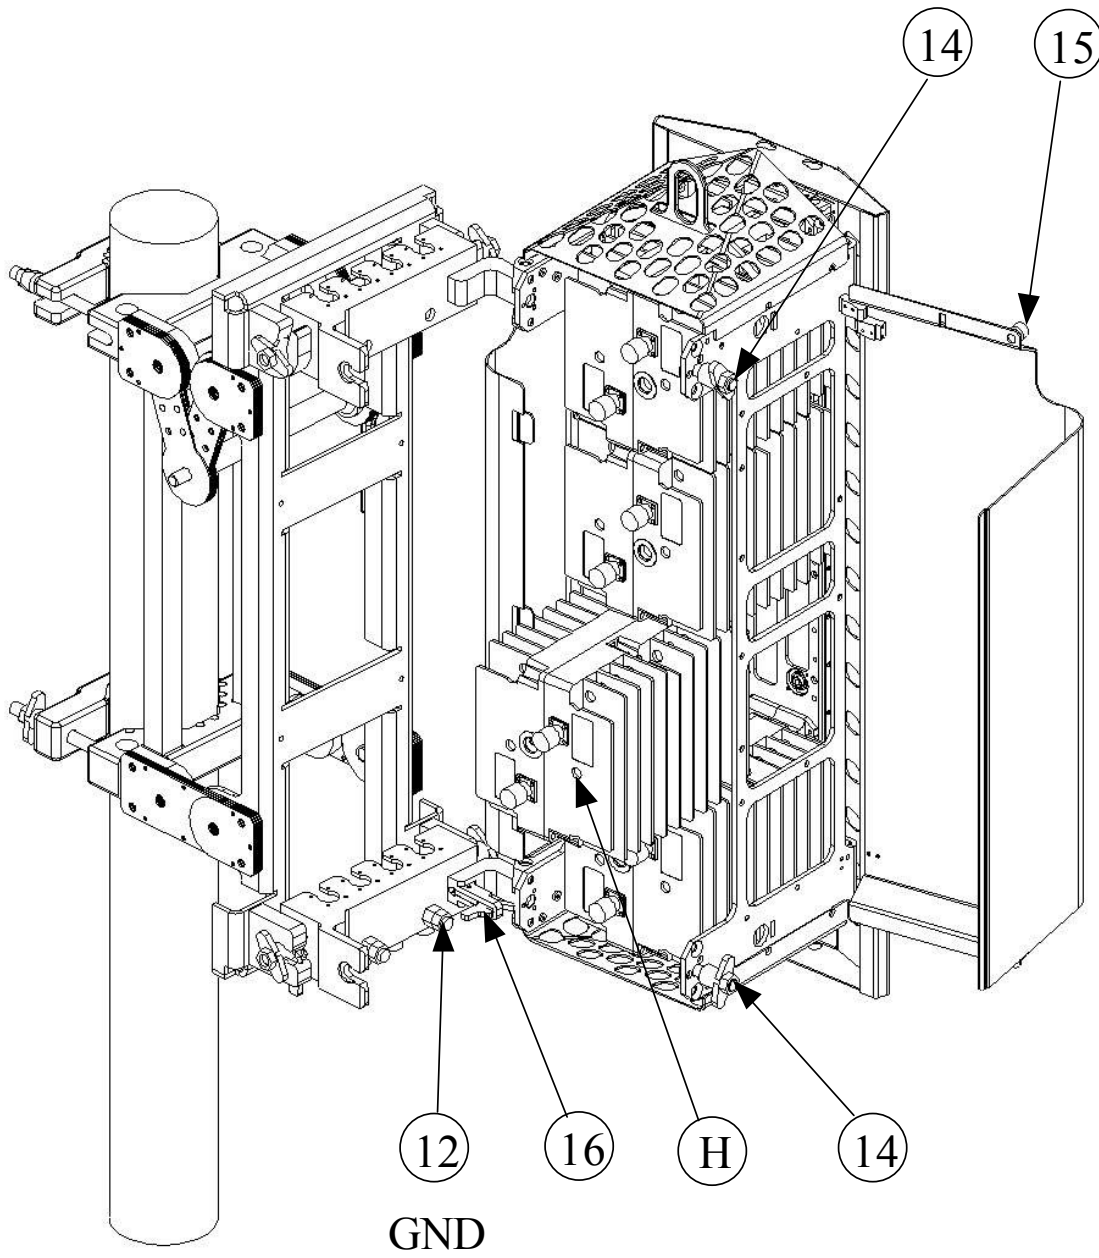

Figure 15: BEAMER® dismounting
2.6.4. BEAMER® Dismounting (Figure 15):
2.6.5. BEAMER® Mounting (Figure 15 and 16)